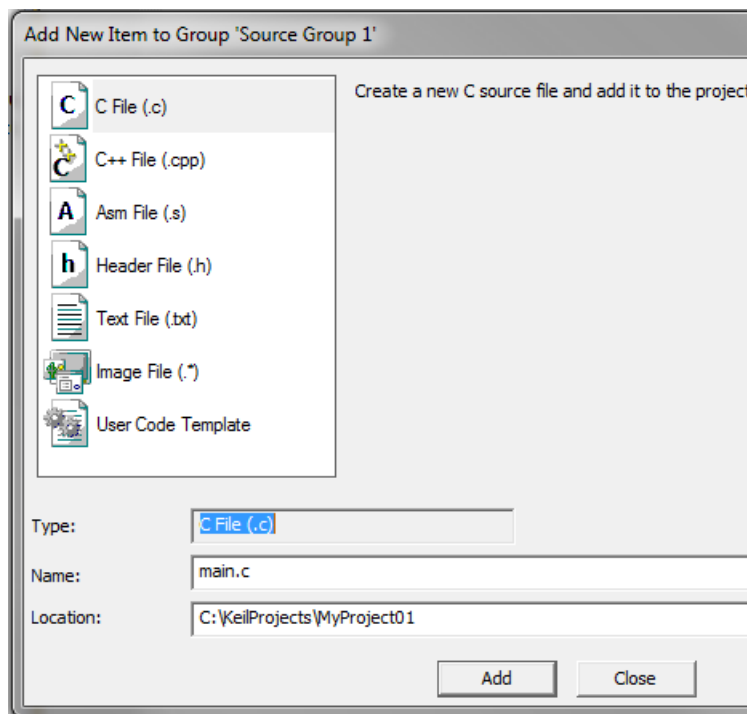

Figure 1-26. Adding new source file dialog
2. Select the C File (.c) option, and type a name of the file into the Name box, for example '*main.c*'. See Figure 1-26.